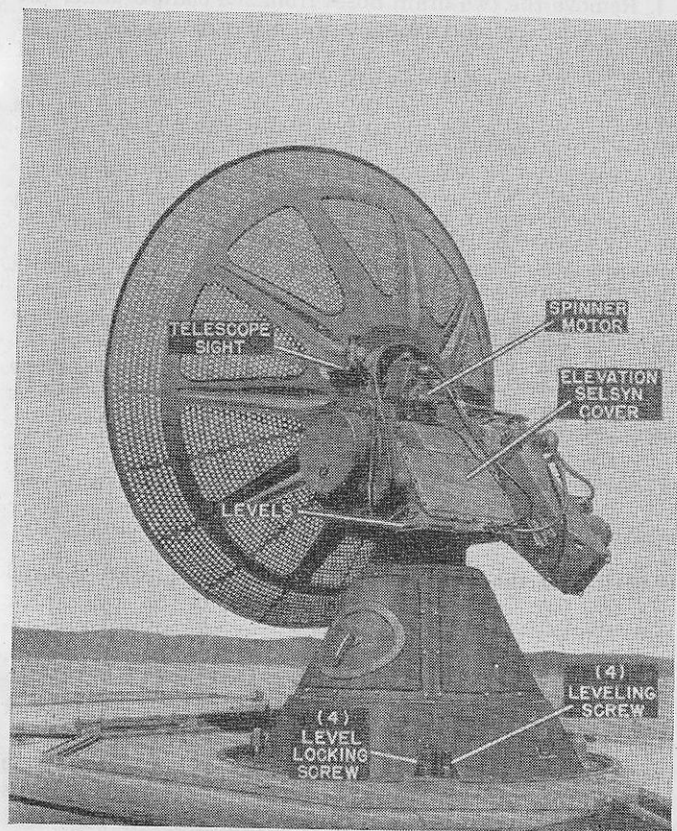

FIGURE 20.—Rear view of parabola.
■ 23. LEVELING PEDESTAL.—a. Loosen the four pedestal level locking screws. (See fig. 20.)
c. Check to make certain that all the electrical lines are plugged into the proper receptacles in the base of the pedestal as shown in figure 20.